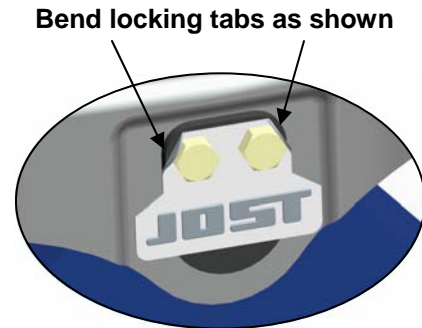

FIGURE 6
4. Install the bracket pins, tab washers and mounting bolts. Securely tighten the mounting bolts, then bend the locking tabs over each bolt (see figure 6).